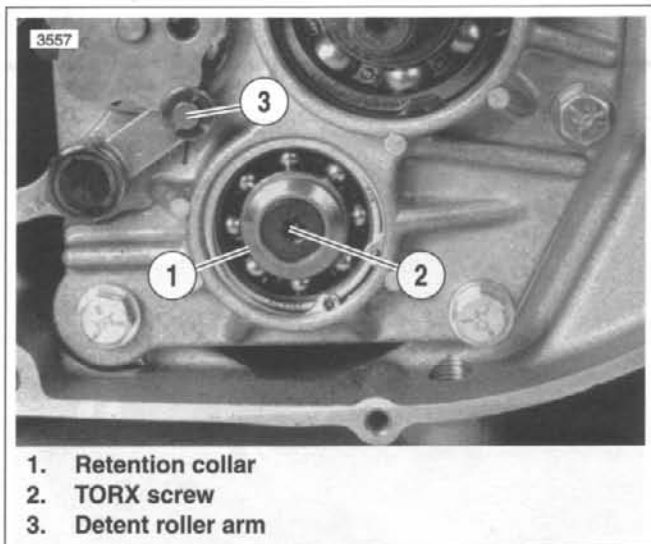

Figure 6-29. Countershaft Retainer
11. See Figure 6-29. Lock transmission in gear. Remove countershaft TORX screw (2) and retention collar (1).